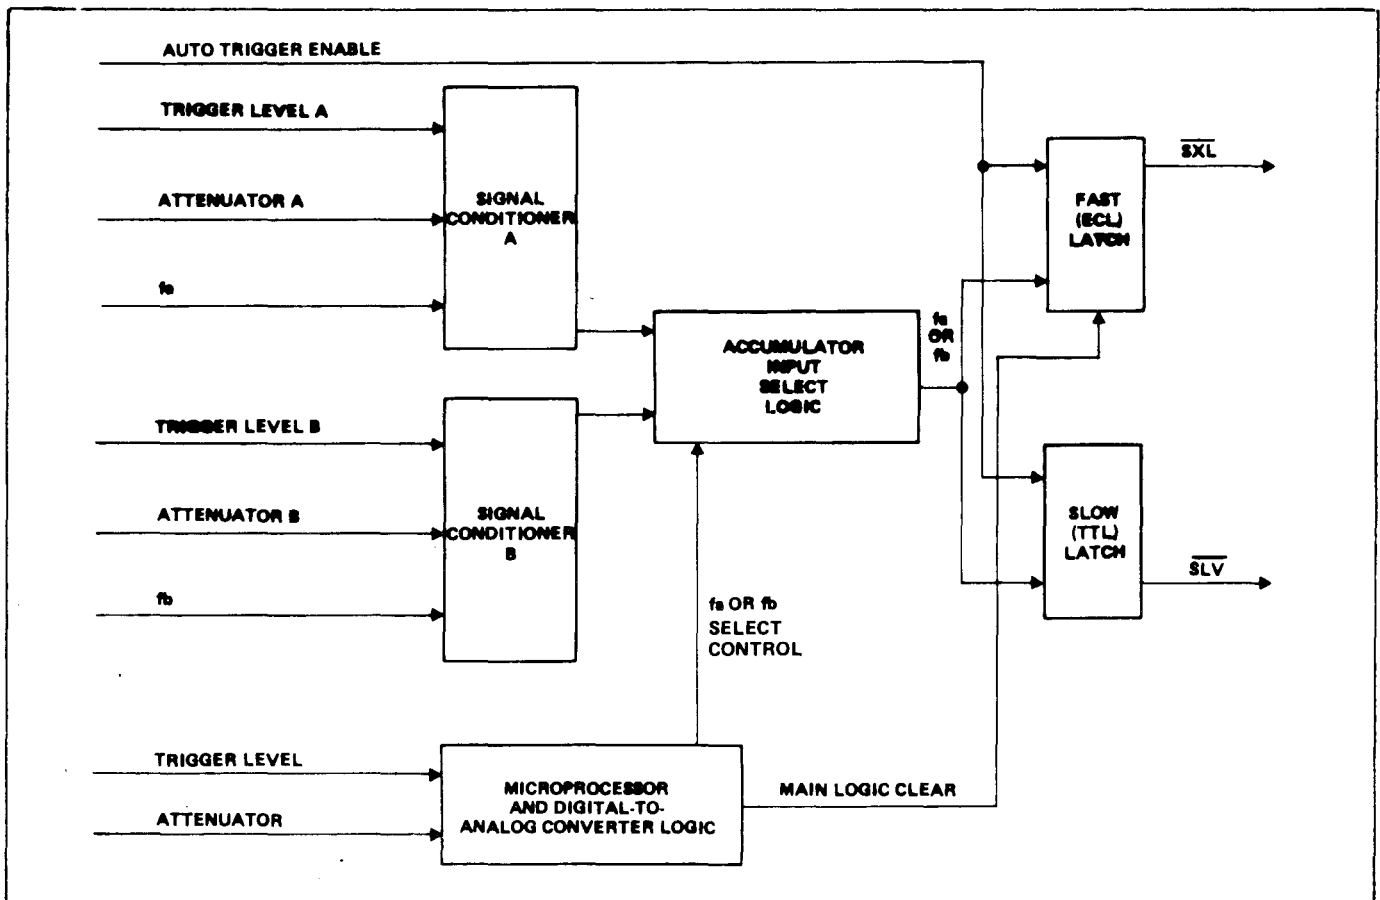
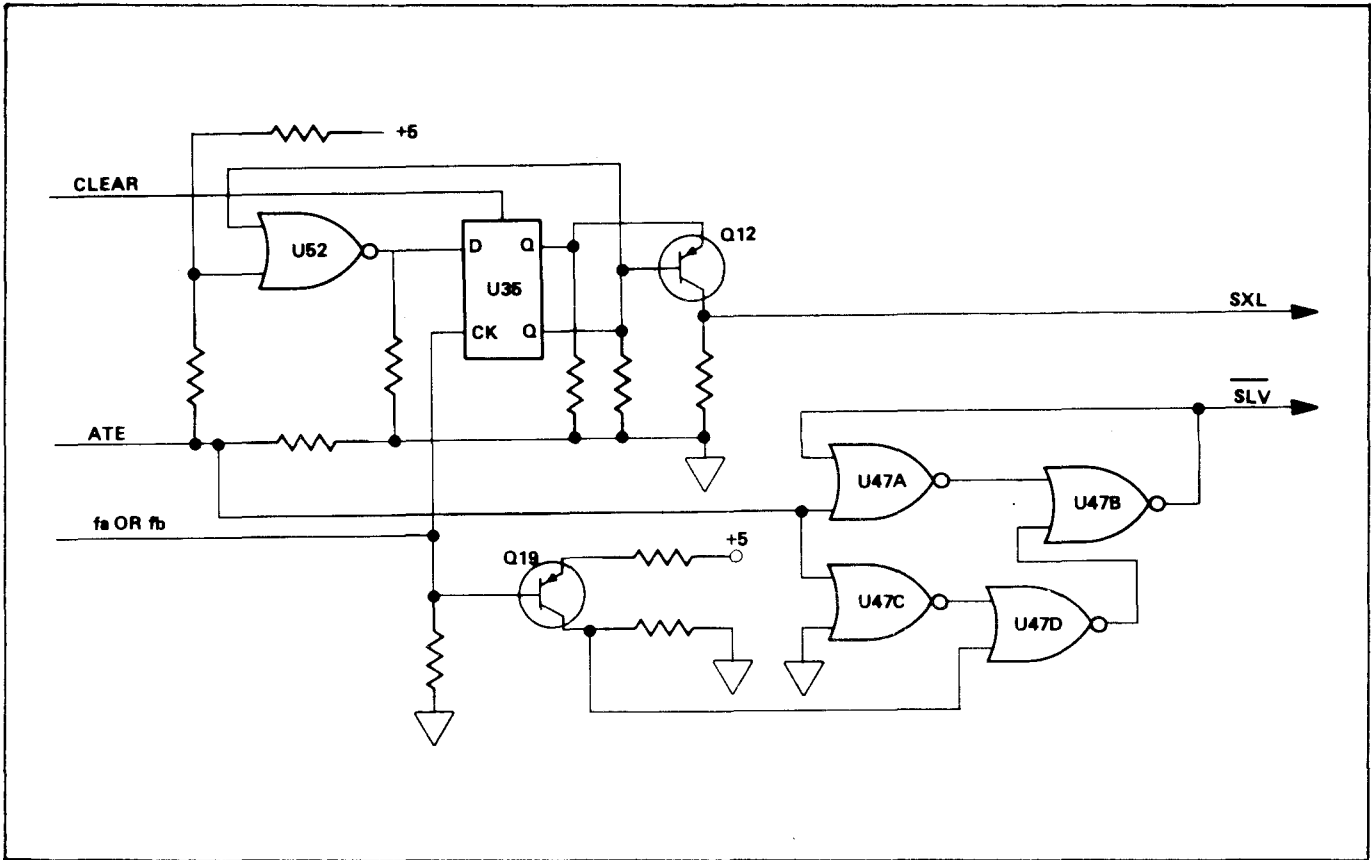

Figure 1.35 - Auto Trigger Block Diagram
Figure 1.36 - Auto Trigger Simplified Diagram
1.4.19.1 The auto trigger circuit, in conjunction with the microprocessor and digital-to-analog logic, determines the amplitude of the incoming measurement signal and automatically sets the triggering level to an optimum point. The measurement signal is tapped at the accumulator input select logic and applied to a fast (ECL) latch and a slow (TTL) latch. See figure 1.35. The fast (ECL) latch generates a signal crossing ( $\overline{SXL}$ ) signal if the measurement signal crosses the trigger level and the slow (TTL) latch generates a signal level ( $\overline{SLV}$ ) signal if the measurement signal is greater than the trigger level. As shown in figure 1.36, the fast latch is comprised of NOR gate U52, flip-flop U35, and transistor Q12. The slow latch is comprised of transistor Q19 and NOR gate U47.